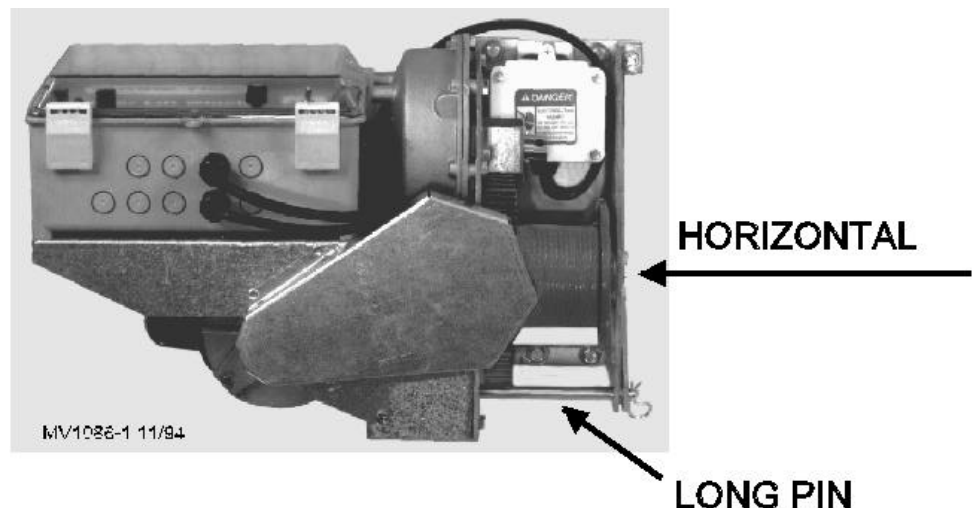

Figure 1. Winch Drum should be horizontal.
The winch should be installed so that the drum shaft is in the horizontal position to prevent the cable(s) from becoming entangled in the gears. See Figure 1.
Place the unit on the Base Plate and insert the long pin. See Figure 1.
Place the unit on the Base Plate and insert the long pin. See Figure 1. Insert (2) bolts through the top (2) holes in the unit and Base Plate. Secure with lock nuts.